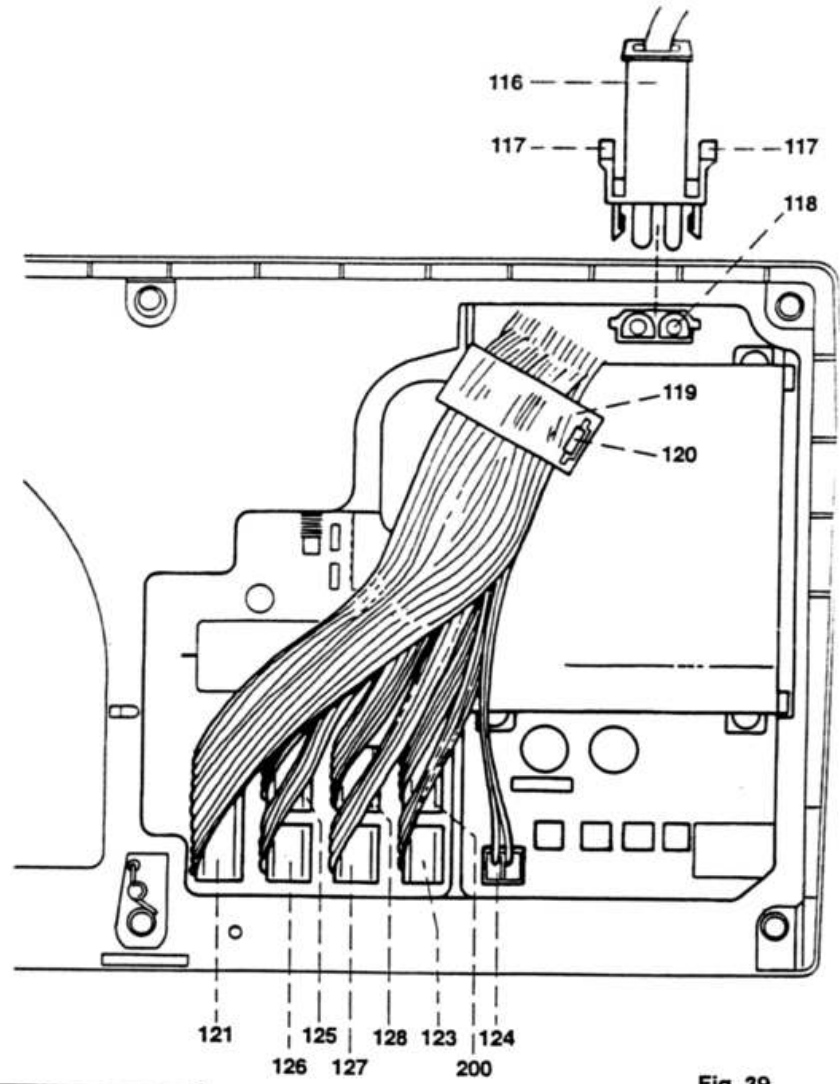

Fig. 39
- Disconnect the plugs of the eight flat cables from the circuit board (fig. 39).